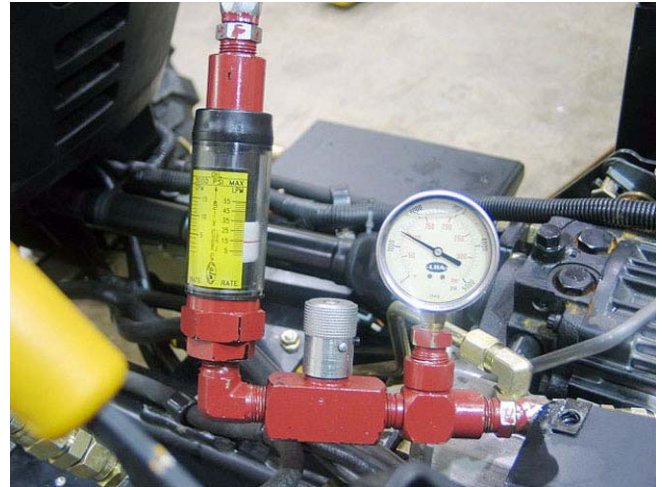

Figure 6.21
- 6.21. Close the flow valve until the pressure gauge reads 1,500 PSI (103 Bar). Note the flow reading. See Figure 6.21.